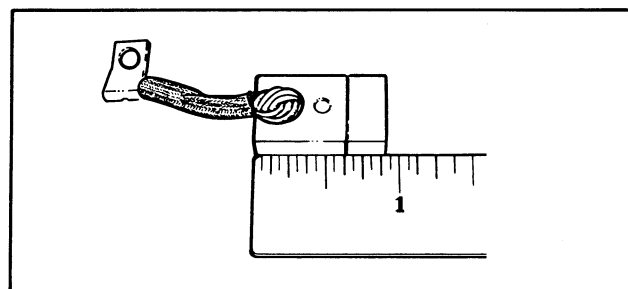

Figure 100 – Measuring Brush Length
- b. Check brush length, Figure 100. If any brush is worn to its minimum length when measured at its shortest point, new brushes are needed. Replace brushes in sets of four only.